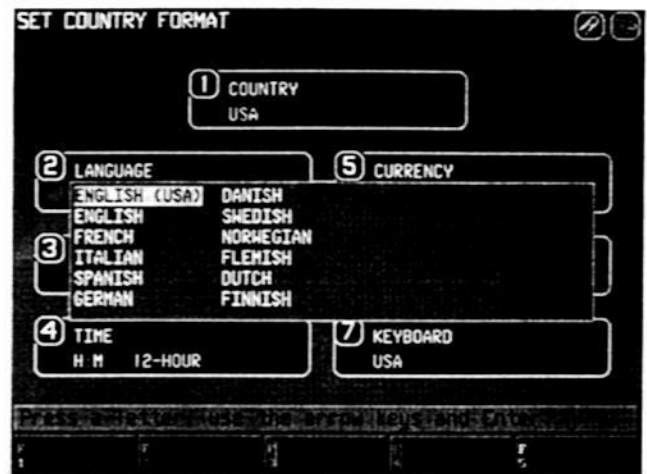

Figure 5-16
3. Press the number of the category to be changed. A dialog box will appear listing the available choices for that particular category (see Figure 5-16).